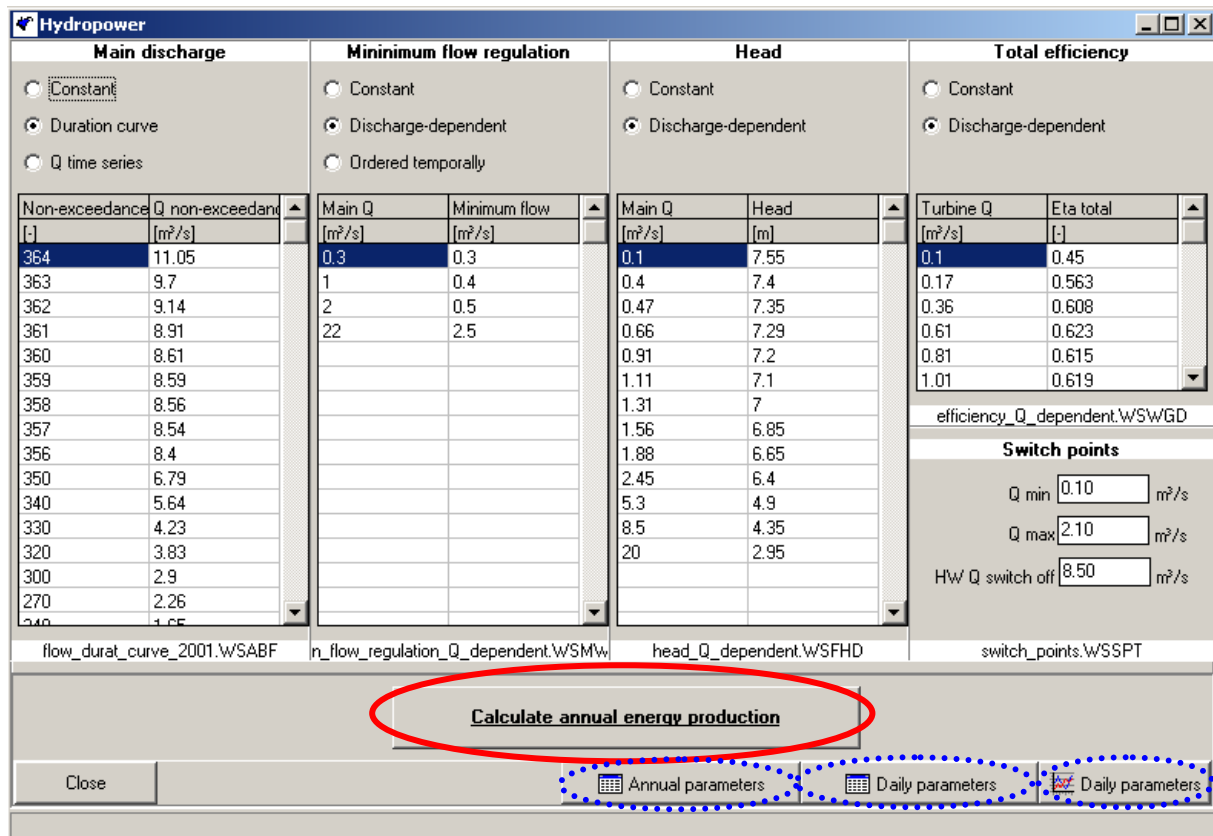

Figure 10: Project view after loading all the required input data files
After all required data have been loaded the Hydropower project view should look like as shown in Figure 10.
- Press in the project view the button **Calculate annual energy production** (area marked red on Figure 10).
The results of the energy and economical calculation can be displayed in tables and charts. There are three buttons (marked with blue dot ellipses on Figure 10) for annual and daily parameters serving this purpose.